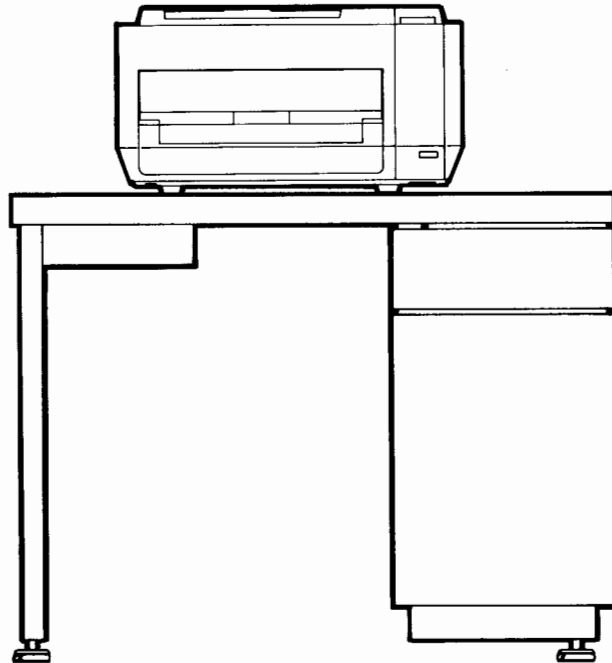

Figure 3-1. Positioning the Printer
- a. Set the printer on the controller cabinet as shown in figure 3-1.